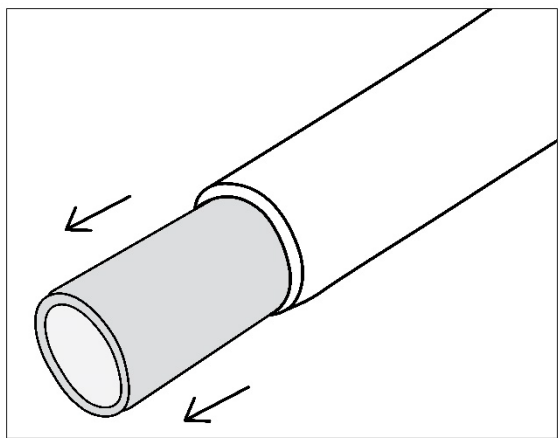

Figure 9: Remove the inner silicone tube within the lumen of SYMVESS BEFORE creating an anastomosis.
Step 9: SYMVESS contains a clear silicone tube within the lumen. The silicone tube provides structural support to prevent kinking and twisting of SYMVESS when tunneling. The silicone tube can be left in place during any tunneling procedure but should be removed before making an anastomosis. To remove the inner silicone tube, gently grasp the end of SYMVESS and slide SYMVESS down to reveal the inner silicone tube, which can then be pulled out (Figure 9).
THE INNER SILICONE TUBE MUST BE REMOVED BEFORE CREATING AN ANASTOMOSIS (FIGURE 9)